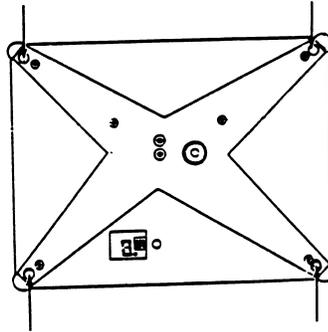

Figure 2
5.3.3 Level the scale. Leveling the scale is accomplished by turning the mounting feet and observing the level bubble position. The mounting feet can be adjusted from the top with a slotted screw driver. (See Figure 2). Arrows indicate screwdriver access holes for adjustment of the mounting feet.